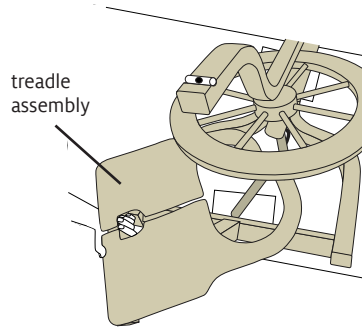

FIGURE 6: POSITION TREADLE ASSEMBLY
8. Set the treadle assembly in place: Hold it by the treadle support bar and tilt it, fitting the curved ends and treadle yokes under the drive wheel (Figure 6). Then raise the treadle support bar until the treadles are perpendicular to the work surface, so the notches between the treadles fit around the front leg.